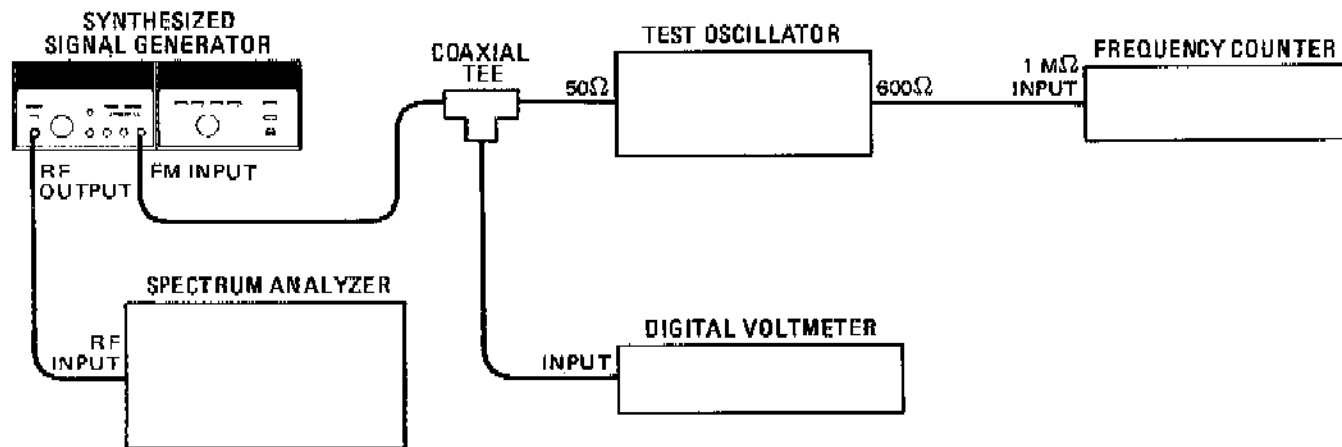

Figure 4-8. FM Frequency Response Test Setup
1. Connect the equipment as shown in Figure 4-8.